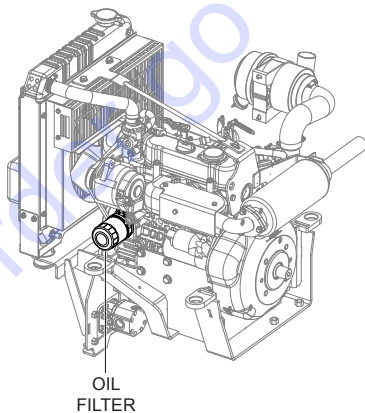

Figure 29. Oil Filter
1. Replace the engine oil filter (Figure 29) every other oil change or every 200 hours of operation. Refer to the engine manual for specific details on how to perform this operation.